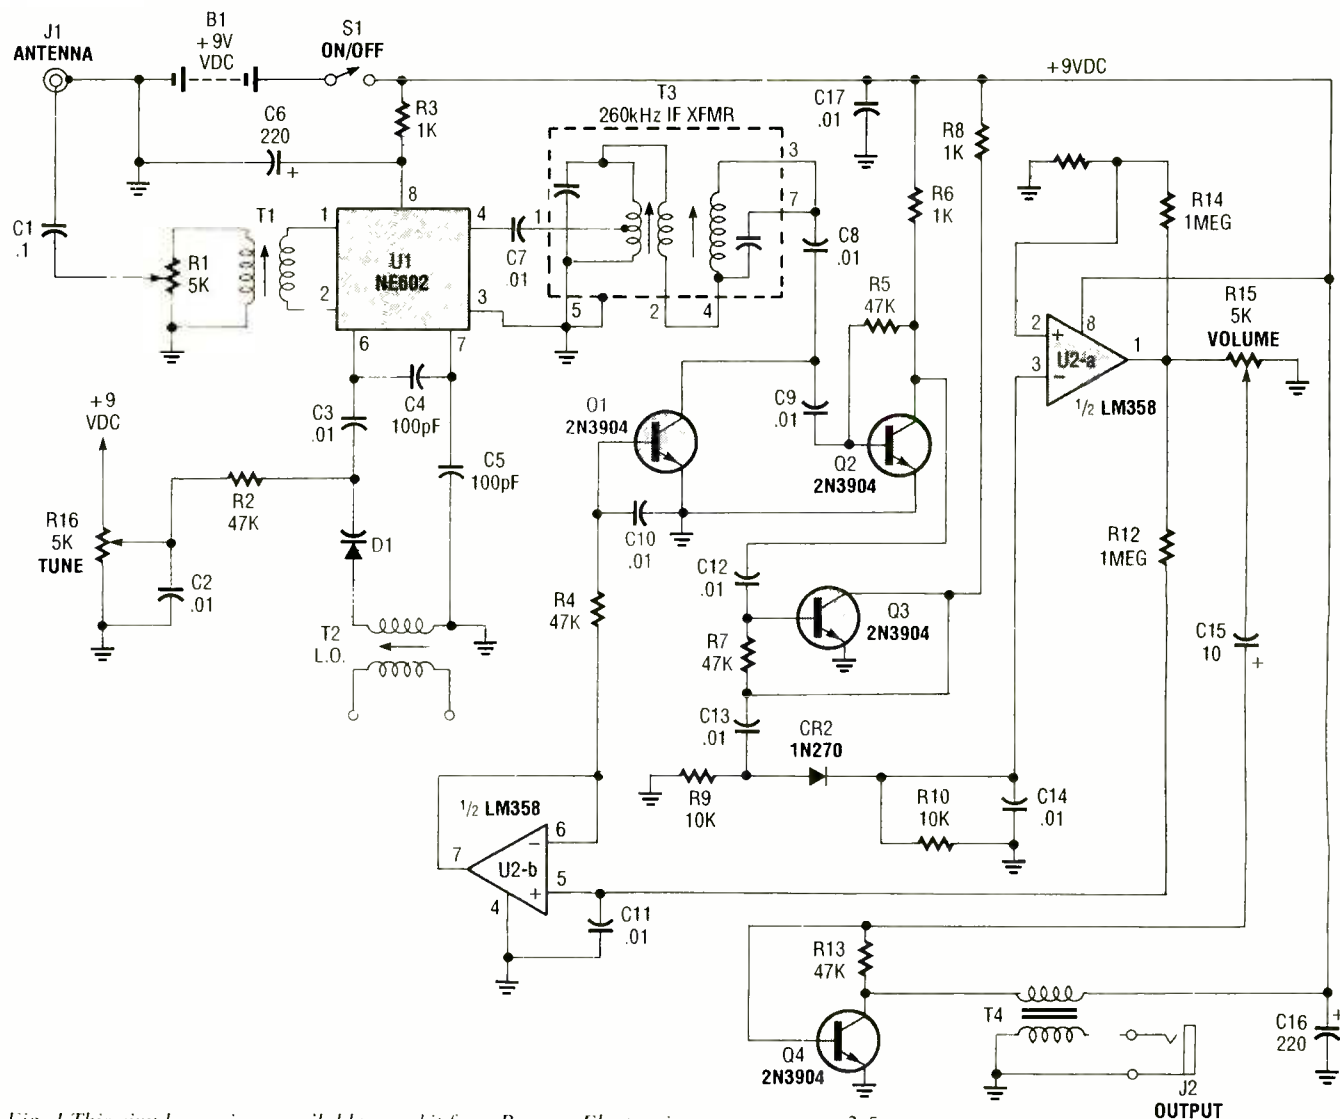

Fig. 1 This simple receiver, available as a kit from Ramsey Electronics, can cover any 2.5-MHz band between 4 and 10 MHz.
**Inside the Receiver.** The SR-1 short-wave receiver (see Fig. 1) is based on the Signetics NE-602 RF-converter chip. That chip provides the local oscillator and a double-balanced mixer in a single, eight-pin miniDIP. In the case of the Ramsey SR-1, the input is untuned. The signal from the antenna is coupled to the broadband input transformer through a 5000-ohm "RF-gain" control that actually functions as an attenuator (note: direct antenna-circuit RF attenuation is an antique method that Ramsey resurrected).